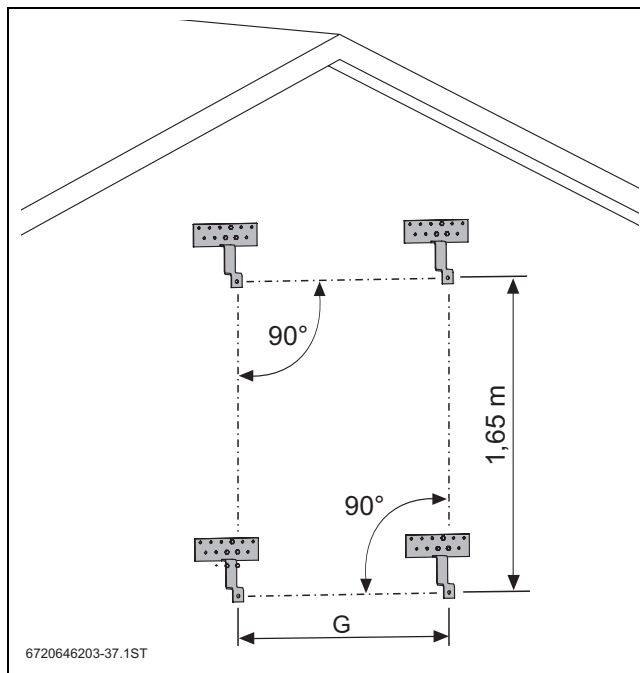

Fig. 25 Positions of mounting brackets
- ▶ Transfer the positions of mounting brackets onto the wall (→ Fig. 25, Tab. 16).